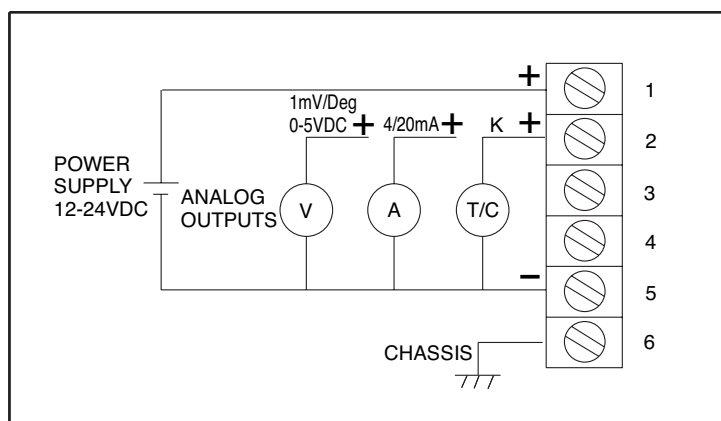
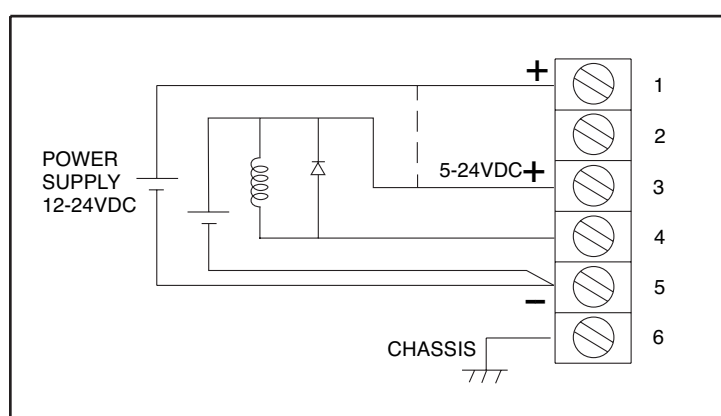

Figure 2-1. Power Supply & Analog Output Connections
Figure 2-2. Alarm Output Connection
Power & Output Connection - Open the cover of the main aluminum housing. Slide the cable through the strain relief and connect the wires to the terminal block on the board as shown in Fig. 2-1. For Alarm output connection, refer to Fig. 2-2.
- ✓ The power and analog output connections are made (Fig. 2-1).
- Connect the alarm output as shown in Fig. 2-2.